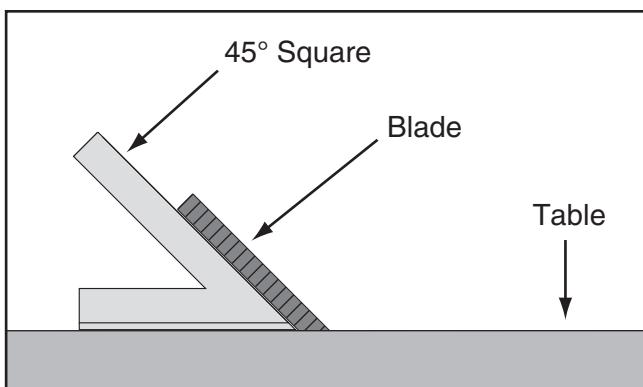

Figure 114. Checking blade at 45°.
3. Place a 45° square against table and blade so it contacts blade evenly from bottom to top (see **Figure 114**). Make sure blade teeth do not obstruct placement of square.